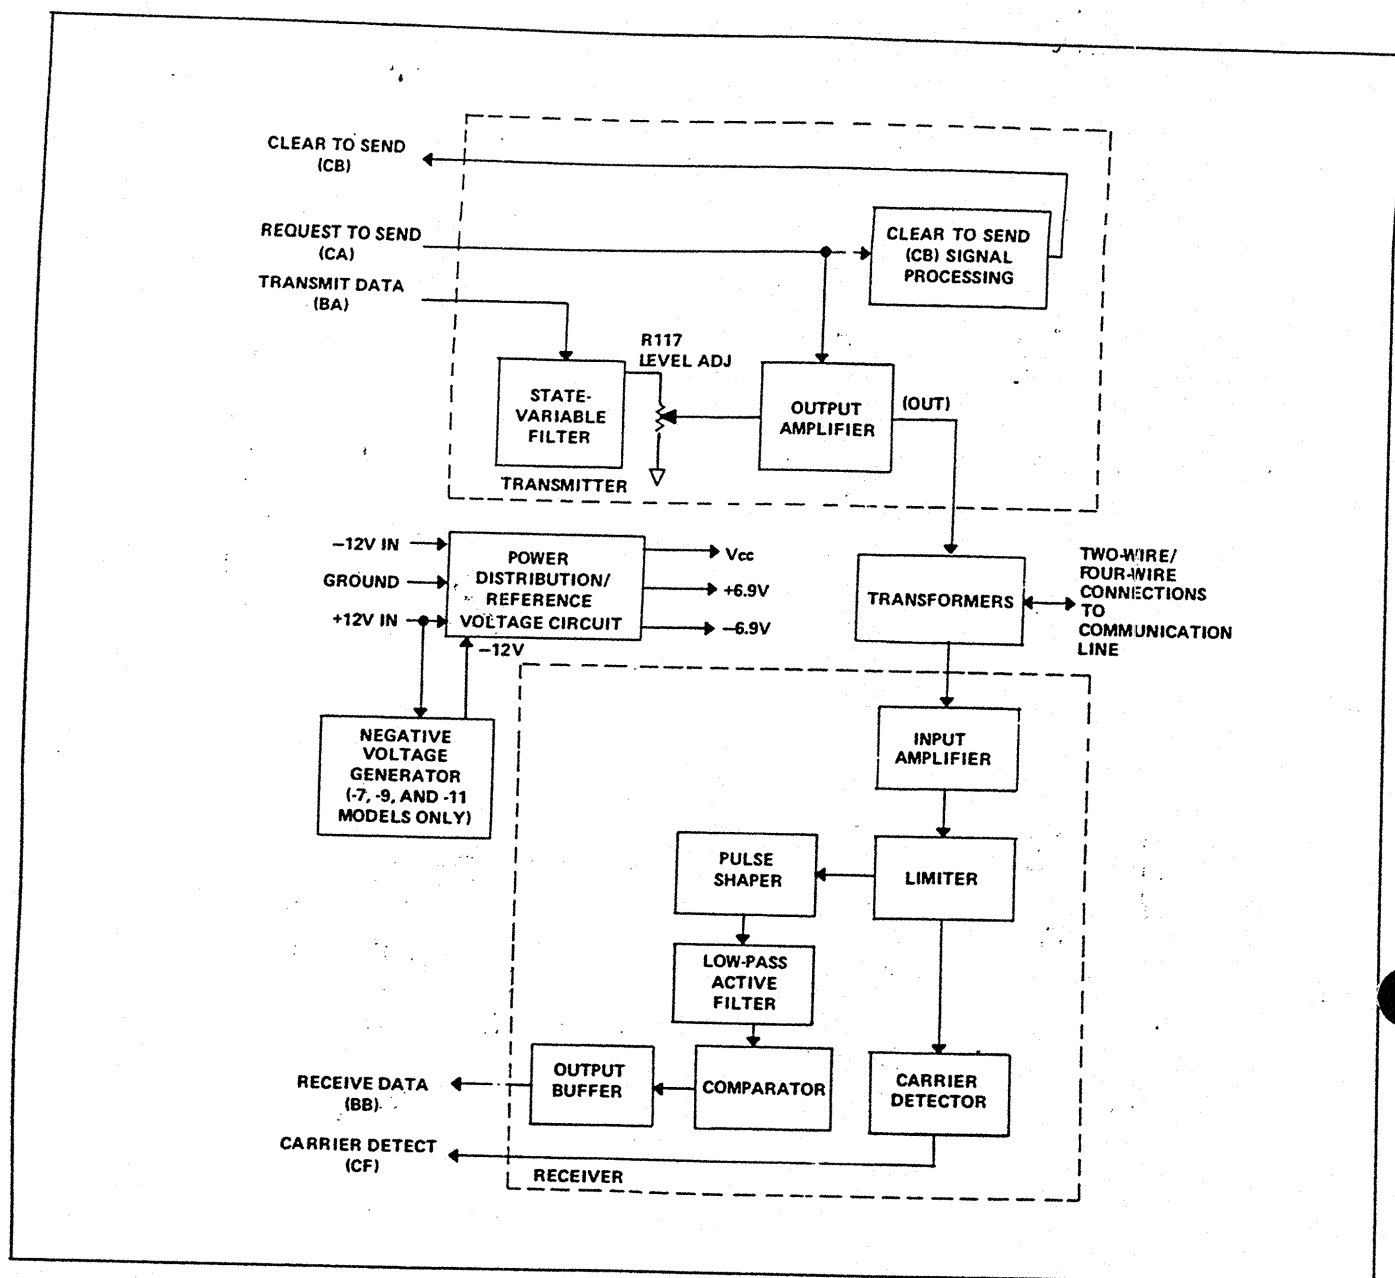

Figure 5. Block Diagram, Series 6385A Single-Card Frequency-Shift Modem.
The Series 6385A Single-Card Frequency-Shift Modem (shown in block diagram form in figure 5) converts binary data into an FSK signal for transmission over a two-or four-wire communication line. It also converts received FSK signals back into binary data. The Series 6385A modem has three different sections, which are interconnected to perform the desired functions: a transmitter, a receiver, and a power distribution/reference voltage circuit. Some models also contain a negative voltage generator, which allows operation from a single-ended power supply.
Clear To Send Signal Processing: Operational amplifier IC105/2 and its associated circuits generate the Clear To Send (CB) signal and its delay. When CA goes low, capacitor C104 is rapidly charged through diode CR106, causing CB to go low; when CA goes high again, CR106 is reverse biased and C104 discharges through factory-selected resistor R136. The C104/R136 time constant sets the delay time, as indicated on figure 5. When the voltage across C104 falls below the switching point, pin 1 of IC105/2 will go high.